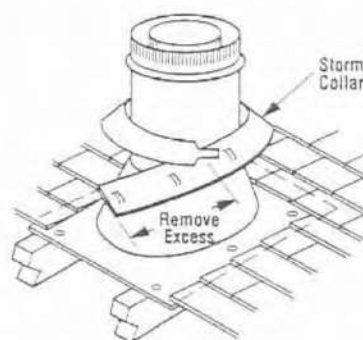

Figure 22
J. Install the storm collar, supplied with the flashing, over the vent/flashing joint. Wrap the storm collar around the vent noting which locking groove closely aligns with the tab (Figure 22). Pencil mark excess material, unwrap and trim excess with shears. Reposition collar. Insert tab through both slots, pull tab so that collar is tight around vent. Slide collar down until it meets top of the flashing. Bend tab back over slot. Apply noncombustible caulking or mastic around circumference of the joint and the tab slot area to provide a water tight seal.